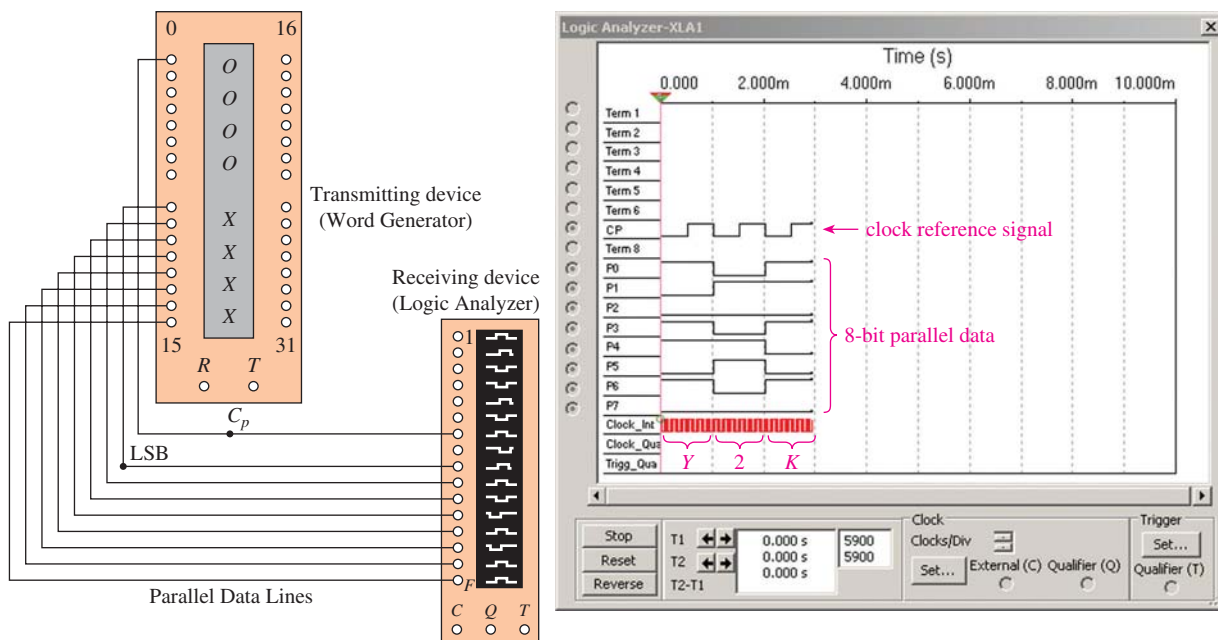

Figure 12 A MultiSIM simulation of the parallel transmission of the ASCII characters Y2K.
Figure 12 shows a MultiSIM simulation of the transmission of the three parallel ASCII characters *Y2K* from a transmitting device (the Word Generator) to a receiving device (the Logic Analyzer). The top trace in the Logic Analyzer displays a clock reference waveform (CP) of 3 clock periods, each period lasting 1 ms. The next eight traces show the parallel output data (PO-P7). Since ASCII is a 7-bit code and since digital systems work in 8-bit groupings, a leading zero is added to the MSB of each ASCII code. During the first period (the first column), the parallel data lines contain the code 0101 1001, which is the ASCII code for the letter *Y*. Look up the next two 8-bit columns in an ASCII chart and you will see that it is transmitting the letters *Y2K*.